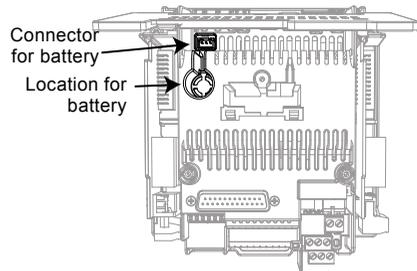

Fig. 35 Location and connector for the battery on the control box
2. Rotate and open the cover of the control box as shown in fig. 35.